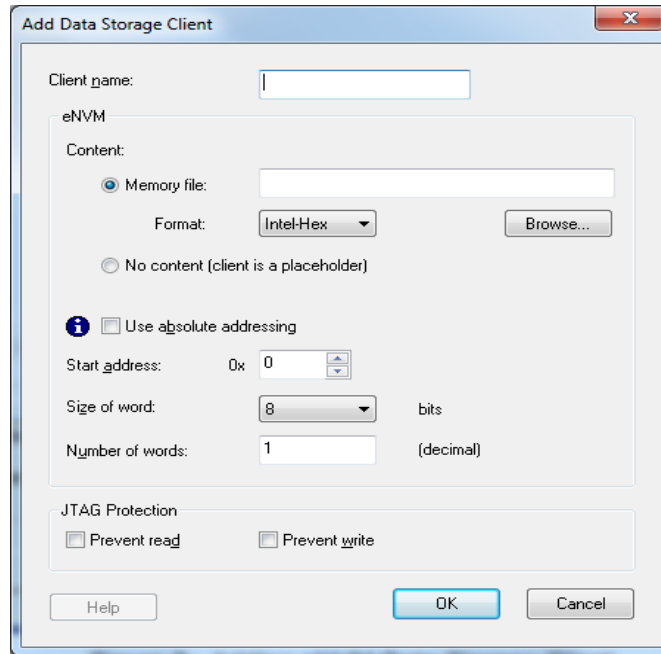

Figure 8 · Adding eNVM Data Storage Client
4. Select **Data Storage** under the **Available client types** tab and click **Add to System**. The **Add to Data Storage Client** window opens as shown in Figure 8 .